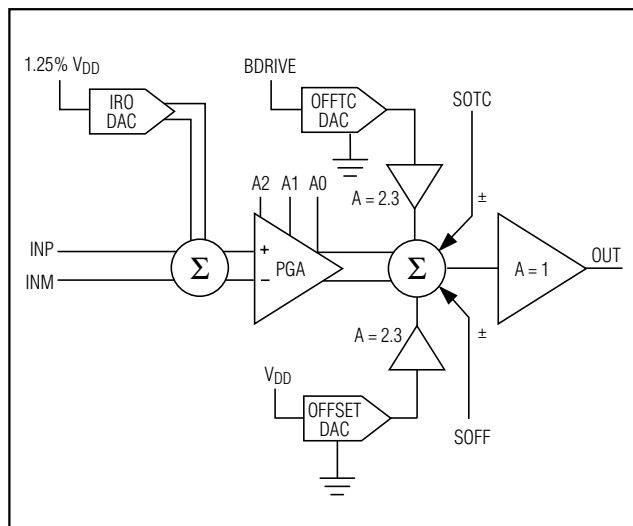

Figure 2. Signal-Path Block Diagram
junction to correct the error. Use the Offset TC DAC to adjust the amount of $BDRIVE$ voltage that is added to the output summing junction (Figure 2).
- Differential to single-ended output buffer (Figure 2)